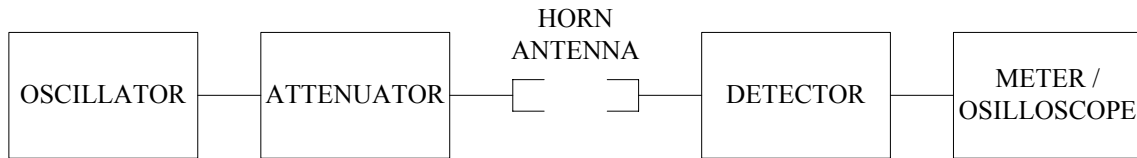

Figure 1: Experimental setup
1. Connect the circuit shown in Figure 1.